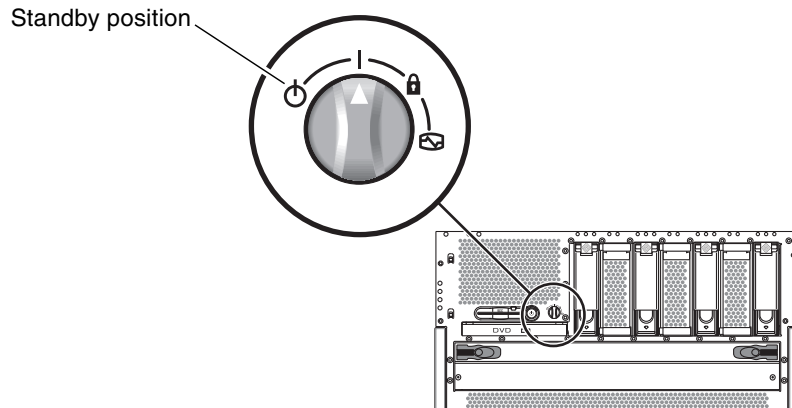

FIGURE 4-20 Turning the Rotary Switch to the Standby Position
2. Turn the rotary switch to the Standby position (FIGURE 4-20).